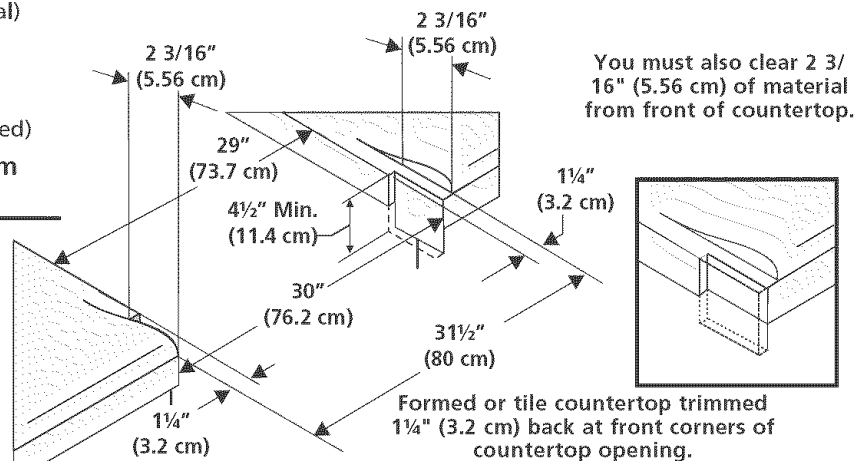

Figure 8
- For existing cutout width of 29" (73.7 cm) (Figure 8):